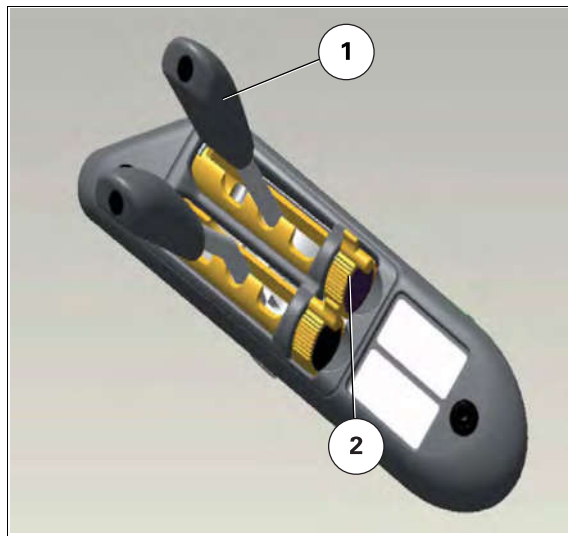

Fig. 20.
The front linkage is connected to the second spool valve, identifiable by its green discs and controlled by the second lever (1) *fig. 20*.